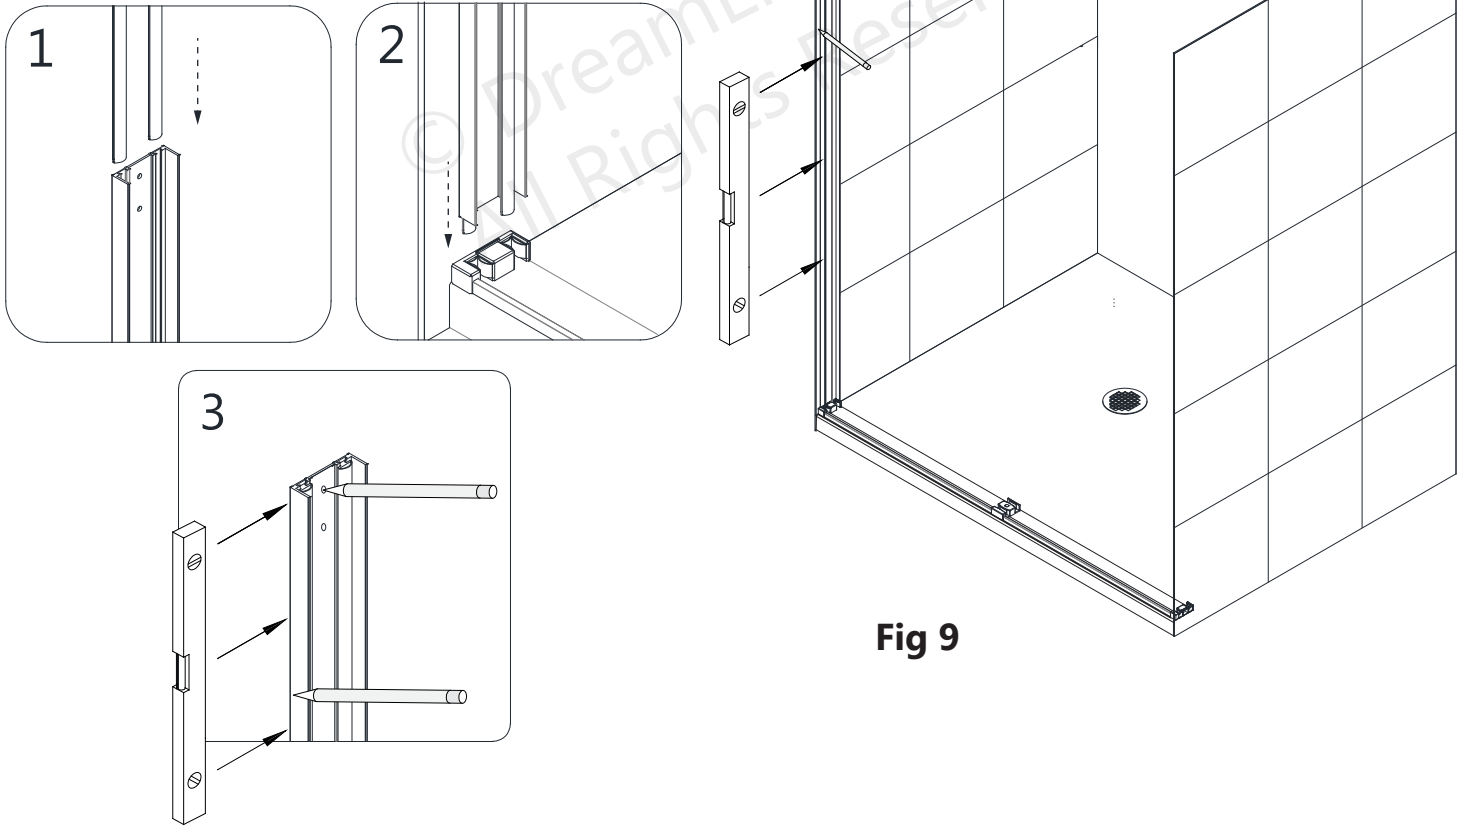

Fig 9
9. Slide the required **Bulb Vinyl Inserts (#07)** into the **Wall Profiles (#06)**. Position the left **Wall Profile (#06)** onto the **SafeClose™ Bumper (#11)** and use a level and hold it plumb. Mark the position of the **Wall Profile (#06)** and the holes for drilling on the wall. **(Fig 9)**